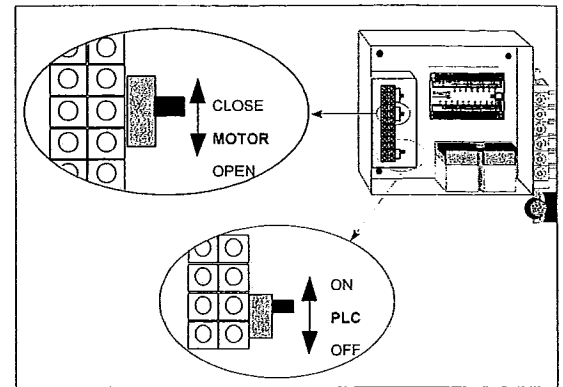
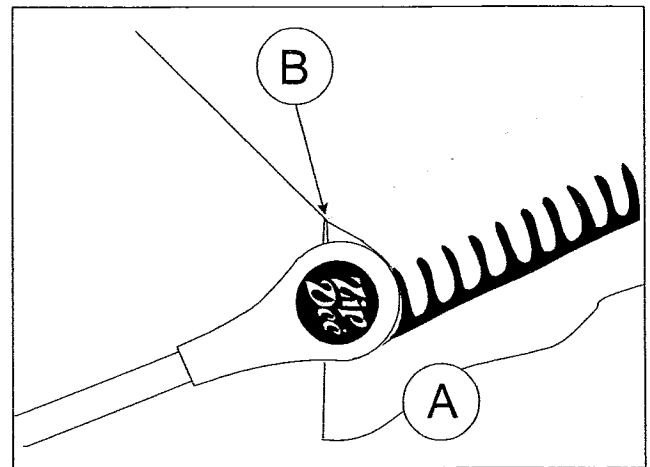

Figure 2
Figure 5
2. Slide "PLC" switch to "ON" position (Fig. 2) to supply power to the computer control and maintain the storage batteries.
3. Use manual motor control (Fig. 2) move slide "MOTOR" switch to "OPEN" position and hold. Awning roller will rotate to unwind. Hold switch until motor stops when it reaches switch limit.
To establish the "open" setting, use the manual motor control (See Fig. 2) and first move slide switch "MOTOR" to the "Close" position until the awning has closed approximately 2 revolutions. Then move slide switch "MOTOR" to the "OPEN" position (See Fig. 5). **CAUTION: DO NOT OVER WIND!**
After making an adjustment, use the manual motor control slide switch (Fig. 2) to operate the motor ... *first* briefly in the opposite direction you want to move the roller... then reverse the switch, holding the switch until the motor turns off by reaching the new position of internal limit switch. Continue adjusting and "jogging" the motor back and forth until the awning is fully unrolled. At the "Fully Unrolled" position, (Fig. 5) the valance (A) will be fully extended and hang straight down from the seam of the pocket and an open "V" will be seen behind the roller tube (B).
Close the awning: Use the manual motor control (See Fig. 2) and move slide switch "MOTOR" to the "Close" position. Hold the switch until the roller stops by reaching factory set close limit. The closing limit is set in the same manner as for opening (described for "opening" in Step 8).